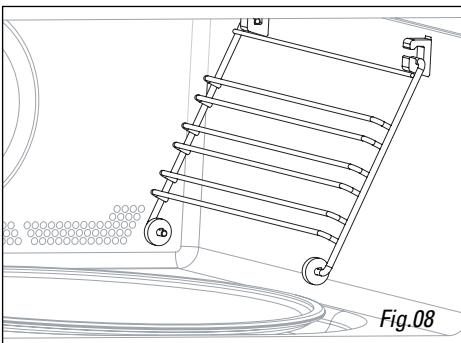

Fig.08
- The side grills (Fig.08):** 2 shelves with hooks allow you to use the accessories on 3 levels.
The 3 insertion levels are available according to the type of cooking and type of food (Fig.08/09).